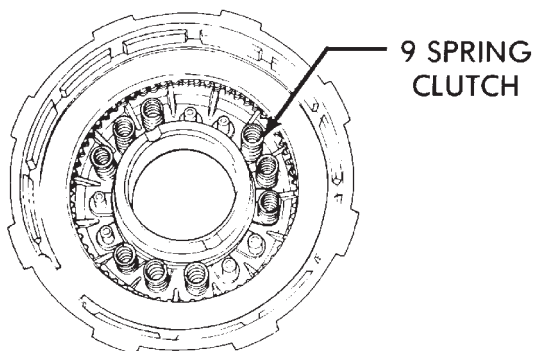

Fig. 166 Front Clutch Spring Position
(9) Install and position nine clutch piston springs (Fig. 166).